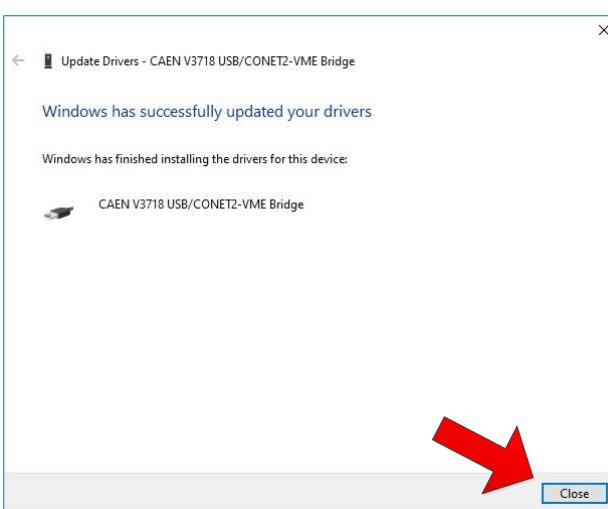

Fig. 11.5: USB Driver Installation: step 5
5. Press the [Close] button at the end of the installation process (Fig. 11.5).